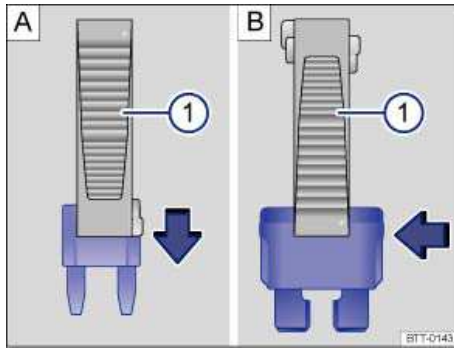

Fig. 203 Removing or inserting a fuse using the plastic tweezers.
- For *small fuses*, slide the tweezers ⇒ fig. 203 \(1\) onto the fuse from the top **A**.
- For *larger fuses*, slide the tweezers ⇒ fig. 203 \(1\) onto the fuse from the side **B**.